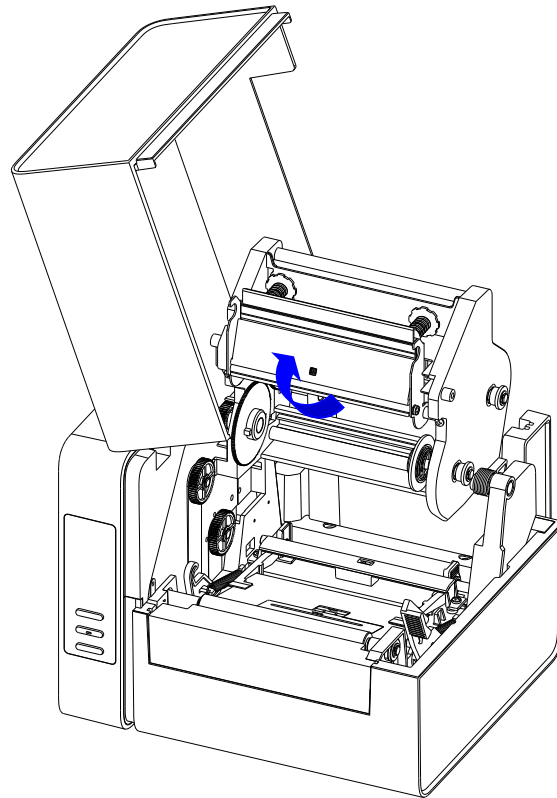

Figure 2-7 Lift the Printhead Module
2. Lift the Printhead Module to expose the Ribbon Supply compartment, see Figure 2-7.